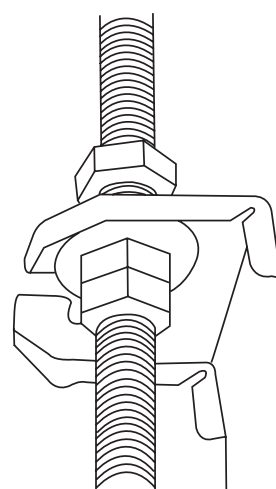

Fig. 3.8
8. Mount the indoor unit with at least two people to lift and secure it. Insert suspension bolts into the unit's hanging holes. Fasten them using the washers and nuts provided. (See Fig. 3.8).